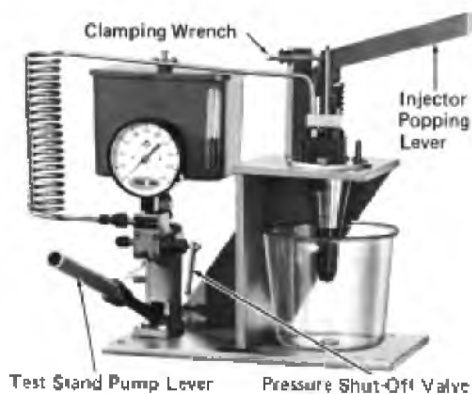

Fig. 11-7 - Injector Test Stand
These instructions cover the testing of all needle valve injectors using the test stand shown in Fig. 11-7. The procedures are not applicable to other types of testing
Install the test block in place of an injector in the stand and pump up pressure to 13 790 kPa (2000 psi), as indicated by the gauge. After five minutes, the pressure should not have dropped below 13 618 kPa (1975 psi). Release the block and recheck at 3448 kPa (500 psi) and 6895 kPa (1000 psi). These pressures should hold one minute with no apparent gauge drop. Make these tests with the pressure shutoff valve, Fig. 11-7, open all the way. If the tests are satisfactory, all injector tests may be made without using the shutoff valve. If the preceding tests indicate leakage in the stand, repeat the tests, closing the shutoff valve before timing the leakoff rates. If the tests are satisfactory with the shutoff valve closed, it will be necessary to use the shutoff valve when making the injector holding pressure test.
4. "Pop" the injector with the popping lever, Fig. 11-7, using approximately 40 smooth even strokes per minute. A finely atomized spray should show at each of the holes in the tip. Rapid closing of the needle valve should produce a sharp "chatter."
3. Injectors should be qualified on the pressure holding test by timing the interval for a drop in pressure from 13 790 kPa (2000 psi) to 10 342 kPa (1500 psi). If this interval is less than 20 seconds (used) or 30 seconds (new or reconditioned), repeat the test, but close the pressure shutoff valve on the test stand immediately after establishing the 13 790 kPa (2000 psi) pressure. This is to ensure that the leakdown time is not being affected by the possible leakage in the test stand itself. If the timed interval for the pressure drop from 13 790 kPa (2000 psi) to 10 342 kPa (1500 psi) is still less than 20 seconds (used) or 30 seconds (new or reconditioned), the injector should be rejected. To relieve the pressure before removing the injector from the test stand, wrap a cloth around the injector fuel line connections and back off on the clamping wrench, Fig. 11-7.
2. Place injector in test stand but do not attach the fuel line. Place rack in the full fuel position and pump all the fuel out of the injector with injector popping lever, Fig. 11-7. When all of the fuel has been removed, depress the injector plunger to full extent of its travel. Slowly release popping lever and simultaneously move injector rack repeatedly in and out through its full travel.